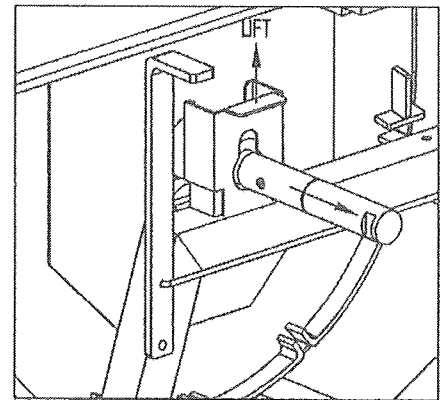

FIGURE 2
2. To remove the paddle pin, first lift the paddle pin lock and then slide the paddle pin until it is out of the inside paddle shaft hub, but still supporting the outside paddle blade assembly (figure 2).